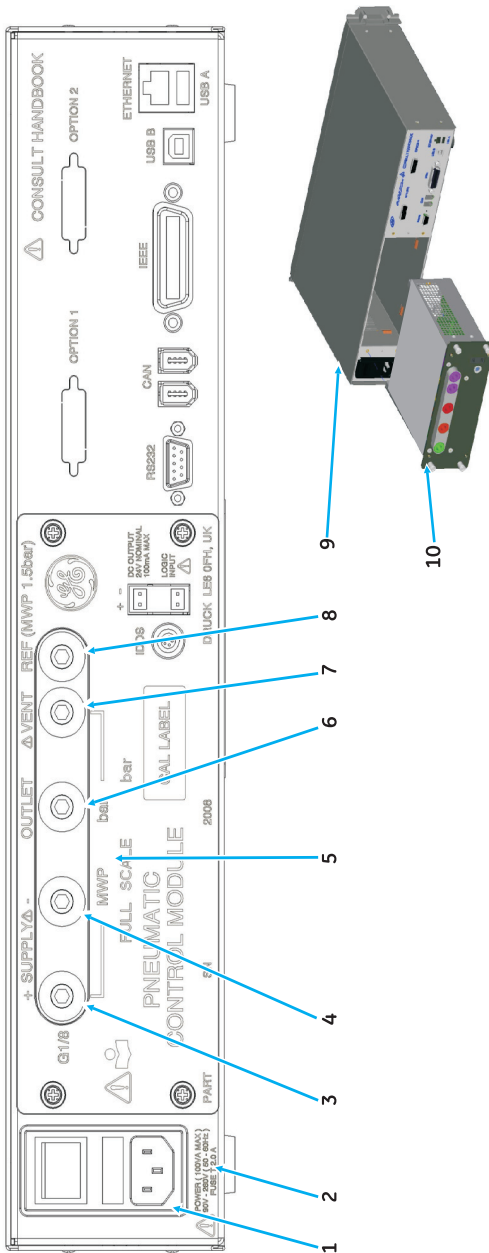

Figure 1
- Do not apply pressures above the maximum working pressure stated on the rear panel (Fig 1, item 5).
- Do not apply electrical power above the maximum values stated on the rear panel (Fig 1, item 2).
Key to Figure 1